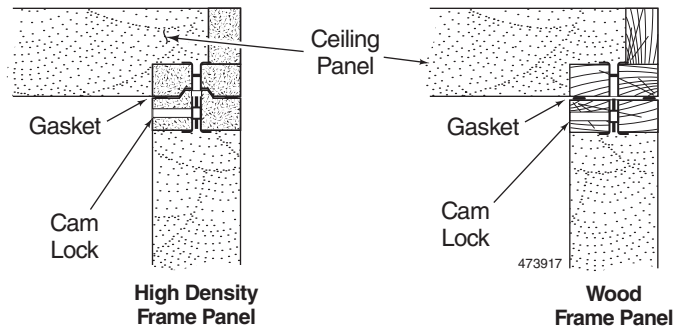

Figure 27. Cam Lock Ceilings
**High-Density Frame and Soft Nose** ceiling panels have a groove that inserts over the wall panel tongue. This helps in aligning ceiling and wall panels. See *Figure 27*.
**Wood Frame** ceiling panels do not have a groove, nor do the wall panels have a tongue. Make sure the ceiling and wall panels are flush on the outside and square to each other, before tightening the cam locks. See *Figure 27*.